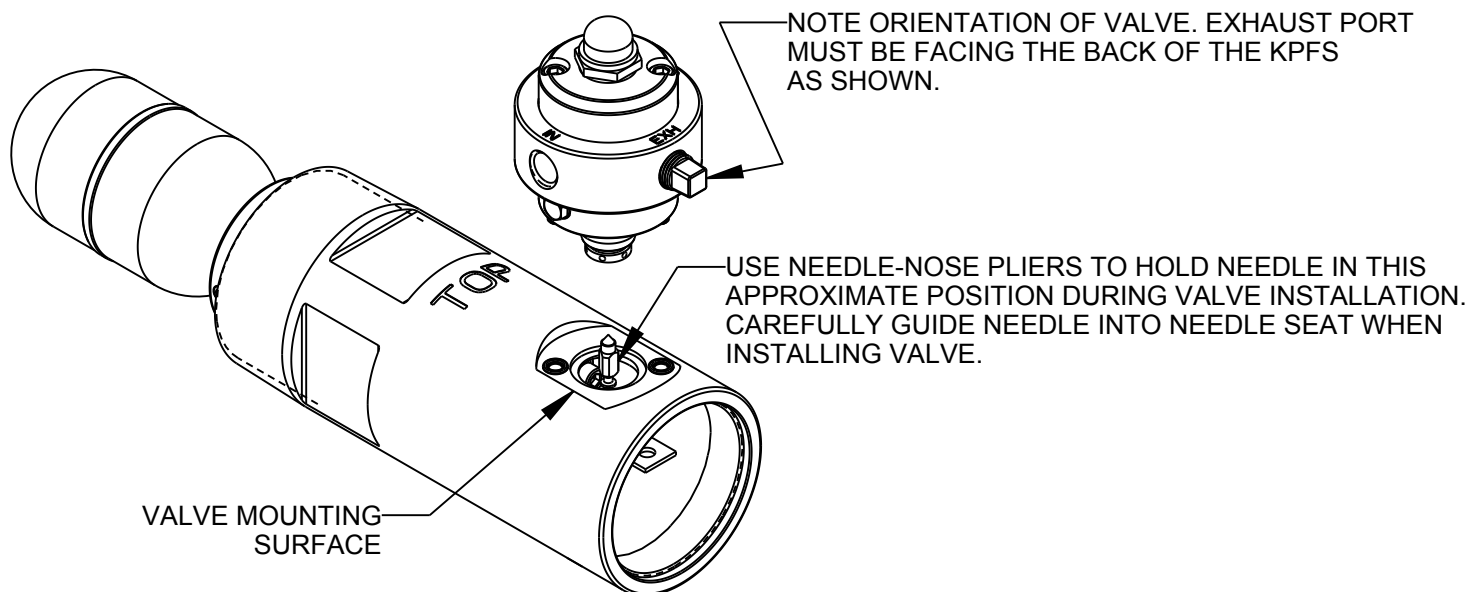

FIGURE 3
4. The next step is to install the valve onto the switch body while simultaneously installing the needle. This can be accomplished in different ways. One way is to use a pair of clean hemostats (or needle-nose pliers) to hold the needle in position in the switch body. Gently grip the needle with hemostats, taking care not to damage the rubber tip. With the rubber tip of the needle facing up, insert the needle into the switch enclosure of the switch body and position it underneath and in the middle of the valve mounting surface as shown in Figure 3.
6. With the exhaust port facing the back of the KPFS switch body as shown in Figure 3, screw in and torque the mounting screws to approximately 20 in-lbs to secure the valve assembly in place.